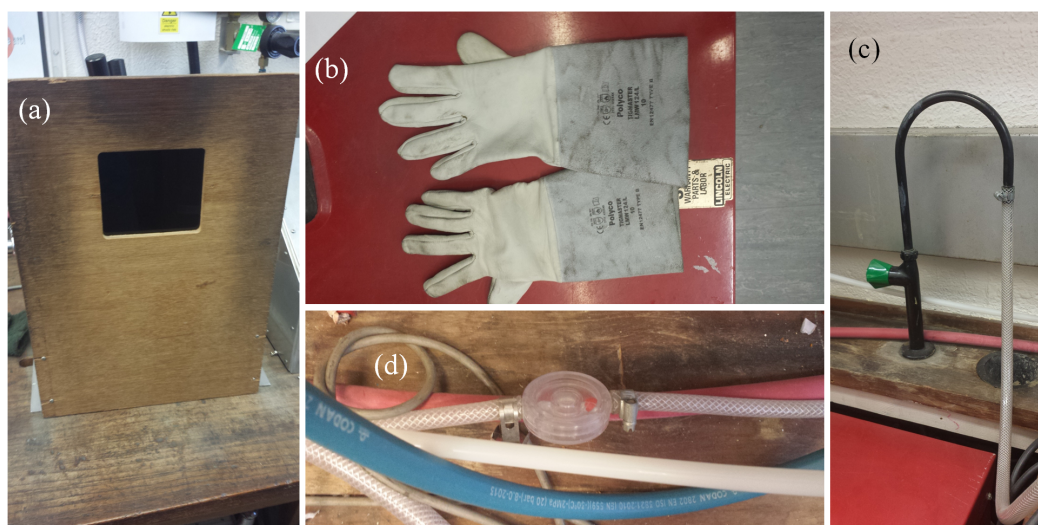

Figure 5: (a) UV shield placed in front of arc furnace. (b) Heat resistance gloves. (c) Tapes used to turn the water on and (d) gauge of the water flow.
Step 7: Place the shield in front of the arc furnace (Fig 5(a)).
Step 8: Put the heat resistant gloves on (Fig 5(b)). You now have to turn the water on using the tap (Fig. 5(c)). Behind the arc furnace is a small plastic case with a red ball in it (Fig 5(d)). This is used to gauge the water flow. Ensure the red ball is going around before proceeding at a reasonable rate, 1 click per second is normally fine.